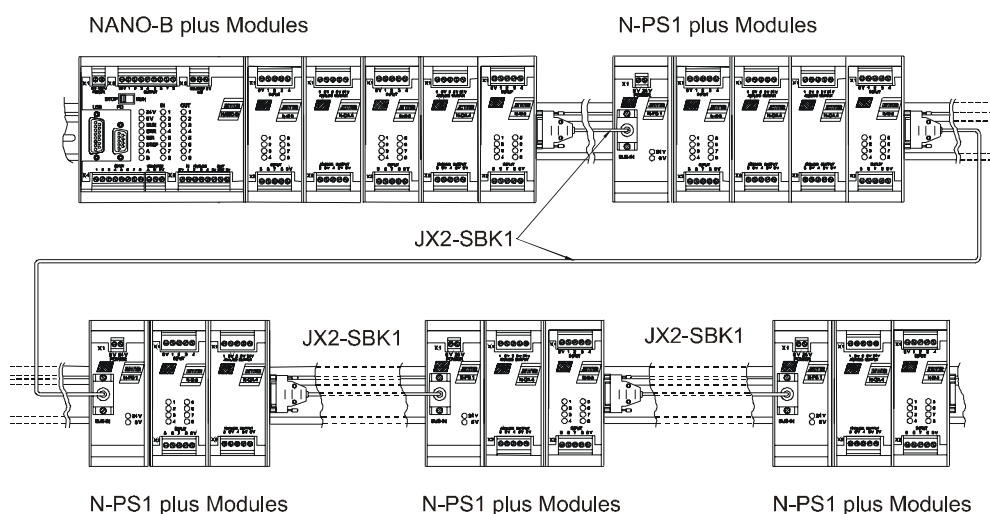

Fig. 32: Decentralised Arrangement on the JETTER System Bus
- A maximum quantity of 15 non-intelligent expansion modules may be linked together with the N-PS 1 modules being ignored (please refer to fig. 31: "Centralised Arrangement on the JETTER System Bus", page 151, and fig. 32: "Decentralised Arrangement on the JETTER System Bus", page 151).